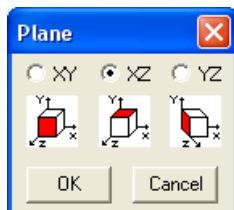

Figure 5-15 Plane dialog box
- From the **Edit** menu, choose **Plane**. The dialog box of Figure 5-15 appears.